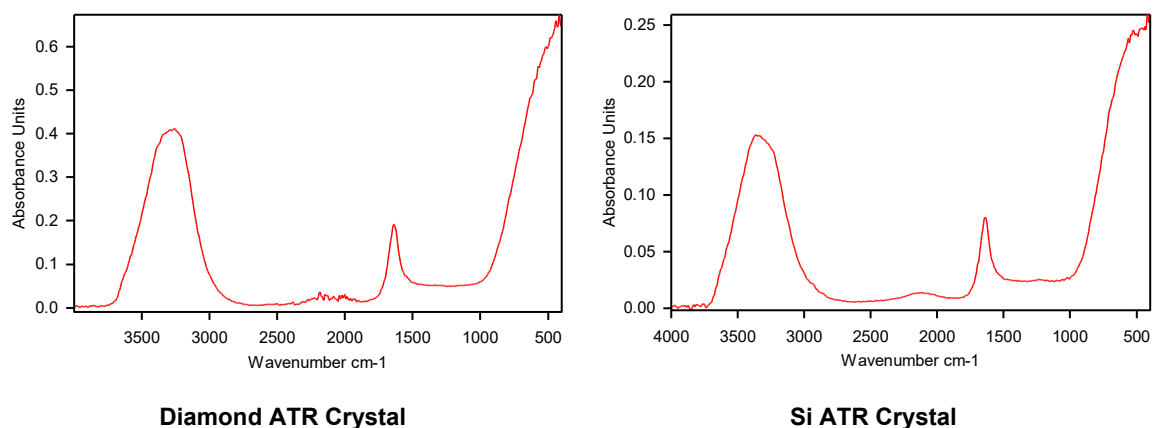

Figure 30 • Absorbance of Water
- Choose two peaks at different ends of the spectrum. Write down the wavenumbers and absorbance values at these peaks. For example, if water is used as the liquid sample on the diamond ATR (Figure 30), the absorption peaks at 3360 cm^{-1} and 1650 cm^{-1} should be within 10% of 0.41 and 0.18 respectively.